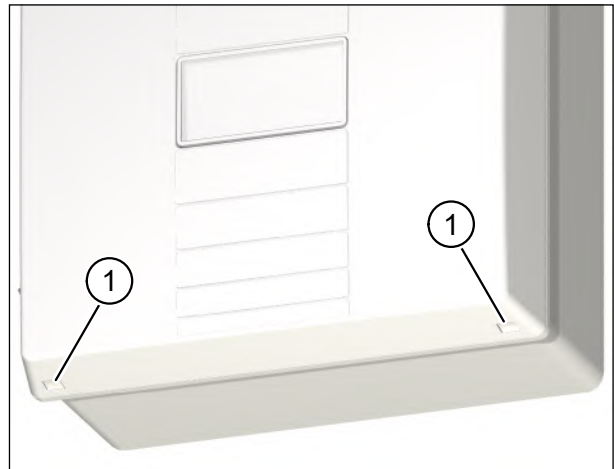

Fig. 13: Removing the unit cover from the ventilation unit
- ▶ Using both thumbs, press the two latches (item 1 in Fig. 13) on the bottom of the ventilation unit. The unit cover will come away.